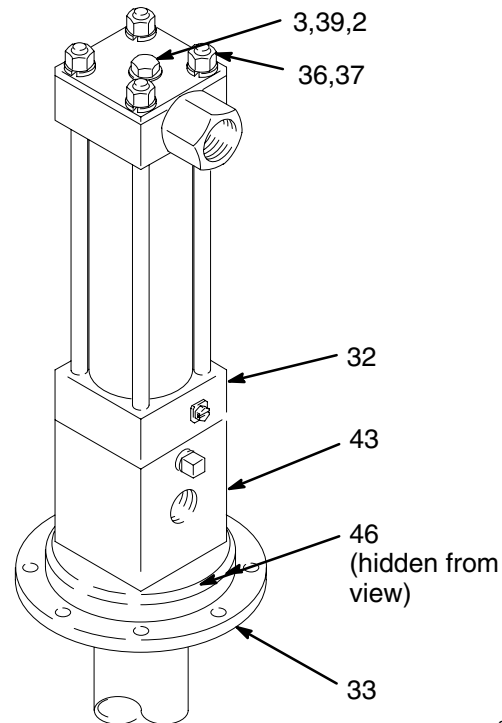

Fig. 7
1. Place the adapter (43) in a vise. Remove the four capscrews (46) and the base (33). Pull the bottom cap (32) off of the adapter. See Fig. 7. If needed, replace the seals as described on page 12.
2. Remove the capscrew (3), nuts (36), and lockwashers (37) on top of the reciprocator. See Fig. 7.